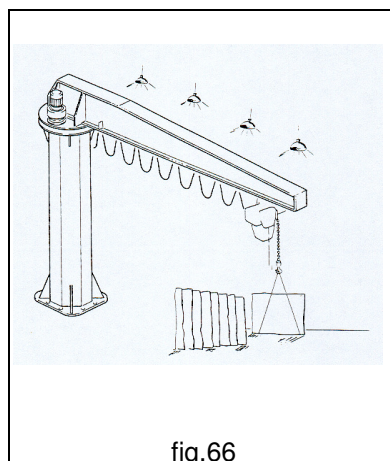

fig.66
- **ALWAYS** operate in suitable lighting conditions in the work area to ensure the load 's visibility (fig.66).